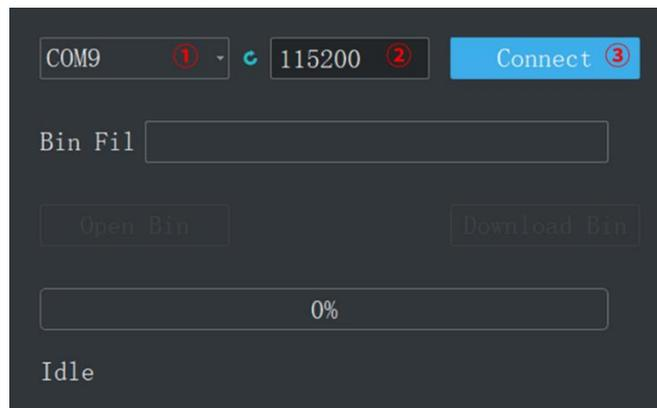

Figure 6-1 Connect the SPL25-VM with the software
- 1) Run Updater_SentiAcu.exe, Select right port, here is "①COM9". Input the right baud rate in "② 115200" and click "③ CONNECT" to connect the SPL25-VM with the software. As shown in Figure 6-1.